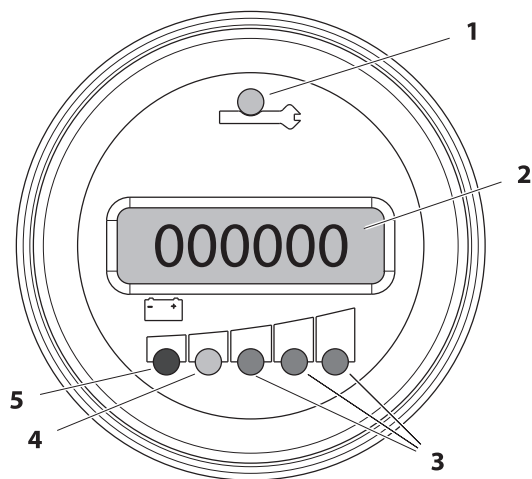

Figure 3-3. MDI Indicator
- A **wrench icon (item 1)** LED will illuminate. (See Figure 3-3.)
- A three to five digit DTC code will display on the **Diagnostic Trouble Code LCD display (item 2)**, below the wrench icon.